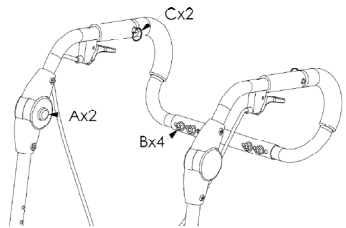

Figure 4
- c. Secure adjustable angle stroller handle to the back canes with the two quick release pins (C in Figure 4).
- a. Remove the two quick release pins (item C in Figure 4) by pulling on the rings.
- i. Depress the 2 buttons labeled A in figure 4.
- i. Undo the 4 fasteners (B in Figure 4)